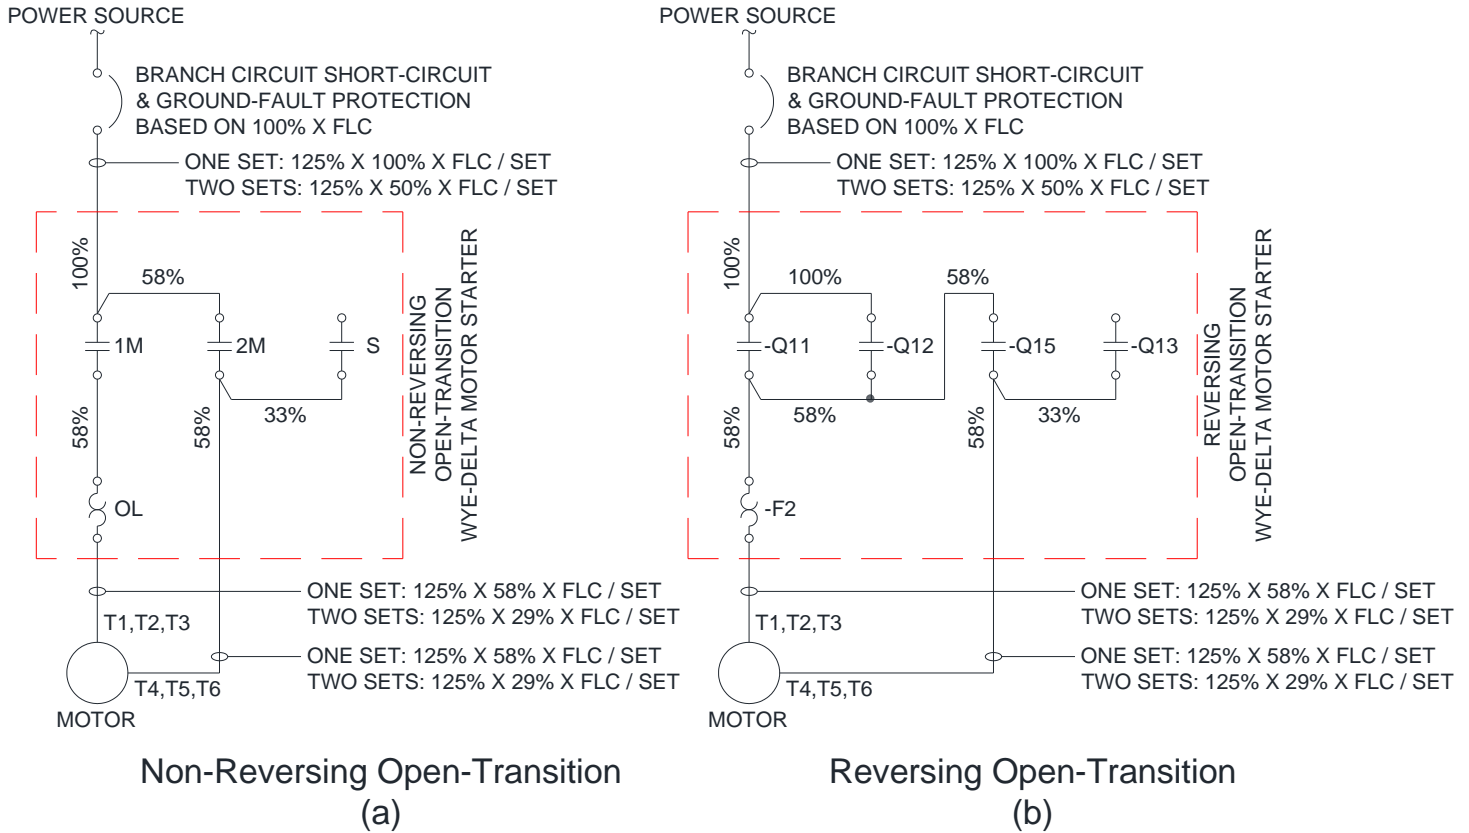
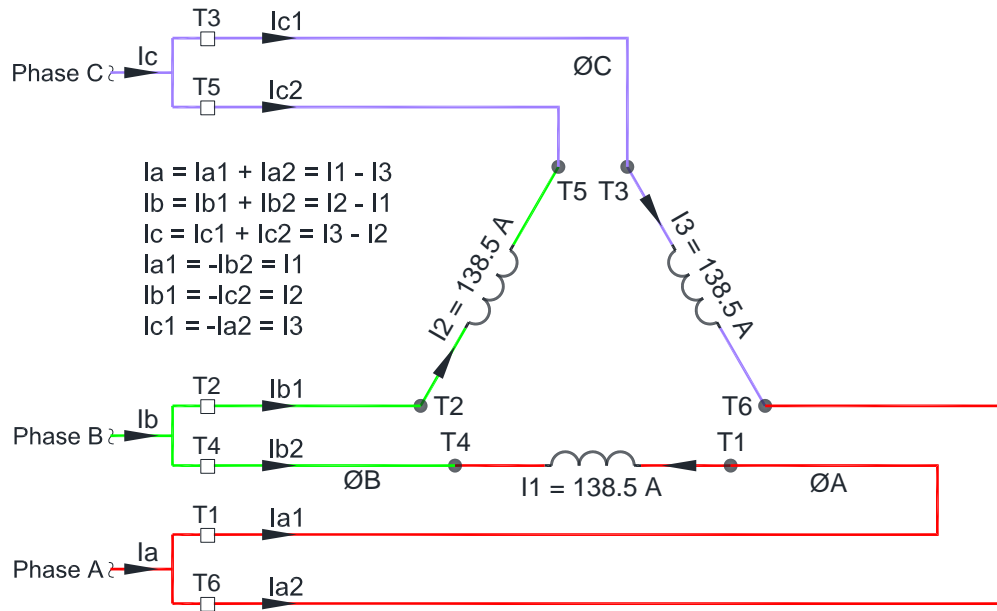
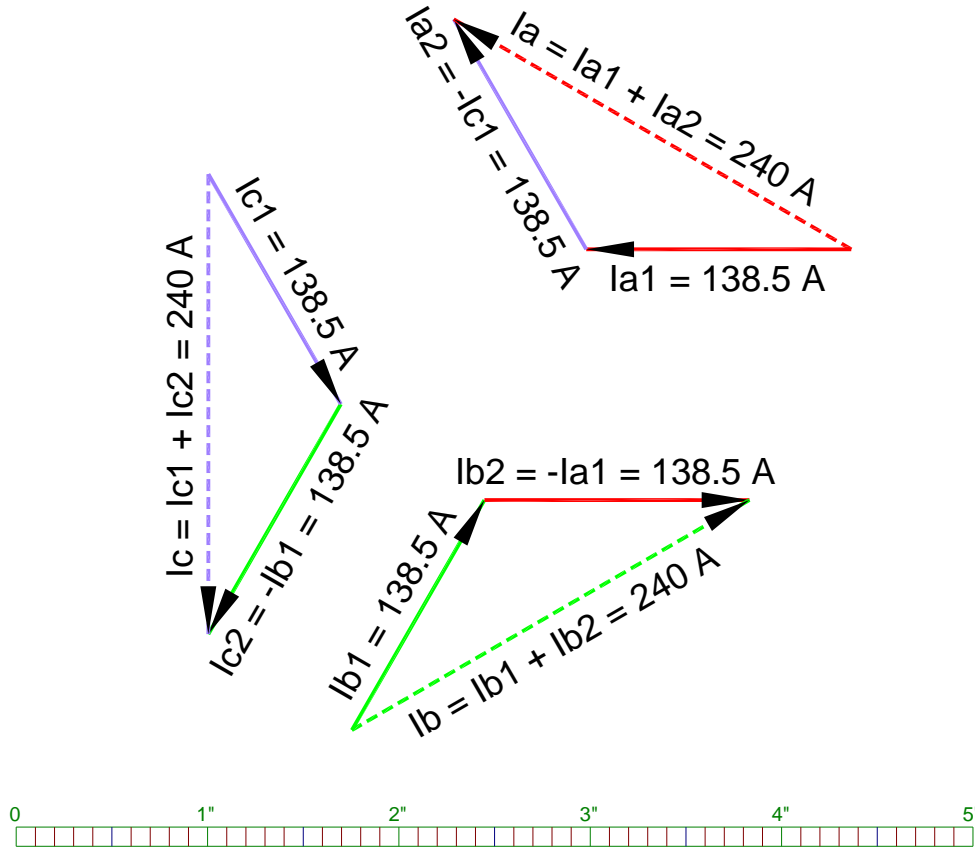

Figure 38 – Sizing Components for Open-Transition Wye-Delta Starters
Figure 39 – Line Currents Going to a Delta-Connected Six-Lead or Twelve-Lead Motor at 480V, Three-Phase
Figure 40 – Line Currents Going to a Delta-Connected Six-Lead or Twelve-Lead Motor at 480V, Three-Phase
The sizing requirements for the entire power circuit, from the branch-circuit protective device (fuses or circuit breaker) to the motor, will be presented in this section, but we will start with the motor and work backwards to the power source. Figure 38 shows an overview of the entire power circuit for non-reversing and reversing open-transition wye-delta motor starters. The branch-circuit short-circuit & ground fault protection device is typically a circuit breaker or set of three fuses. In the case of motor control centers or combination starters, this fuse or circuit breaker is mounted in the same bucket, compartment, cubicle, or enclosure as the wye-delta motor starter.
The reason that some of the conductor, contactor, and thermal overload sizes are different for wye-delta motor starters compared to full-voltage motor starters is because the three windings of a wye-start/delta-run motor are actually three single-phase loads. These three single-phase loads aren't perceived as a single three-phase load until the point where motor terminal T1 connects to T6, T2 connects to T4, and T3 connects to T5. As can be seen in Figure 38, this happens on the line side of contactor 1M for a non-reversing wye-delta motor starter, but on the load side of contactors –Q11 and –Q12 for reversing wye-delta motor starters. See Table 2 on page 8 for the IEC equivalents of the NEMA motor terminal designations T1 through T6.
In Figure 38, it might be incorrectly inferred that the branch-circuit short-circuit and ground-fault protection device should be selected to be equal to 100% of the motor’s full-load current, but that is not the case. The size of this circuit breaker or set of fuses will vary, depending on the type of device that is chosen, but should be selected from the circuit breaker or fuse manufacturer’s catalog based on 100% of the motor’s FLC, limited to the maximum rating permitted by NEC Table 430.52. For example, a 200 Hp motor at 480 V has a full-load current of 240 A. A typical Class J time-delay fuse selection for this motor would be rated at 350 A. This is within the upper limit of $240\text{ A} \times 175\% = 420\text{ A}$ that is required by NEC Table 430.52.
In previous examples, such as those shown in Figure 13 on page 17 and Figure 16 on page 20, we have said that the full-load current flowing to a wye-start/delta-run motor starter for a motor connected in the delta configuration is equal to the full-load current shown in Table 430.250 of the NEC. For example, a 200 Hp wye-delta motor would have 240 A flowing to the starter when wired in the delta configuration at 480 V, three-phase. Let’s now discuss the fact that there are six power conductors, not three, going to the wye-delta motor downstream from this starter. It might seem that the 240 A full-load current would be divided equally across the two conductors per phase to give us 120 A in each of the conductors going to the motor from each of the three phases of the power supply, but it is a little more complicated than that. The 240 A per phase is actually composed of two 138.5 A current vectors that are 120° out of phase with each other, as illustrated in Figure 39 and Figure 40.
In Figure 39, the current vector I_a , which is the current from phase A of the power source, is composed of current vectors $I_{a1} + I_{a2}$, which can be restated as $I_{a1} - I_{c1}$ or $I_1 - I_3$. The two current vectors per phase are shown in Figure 40 below. This split or change from current vector I_a to the two current vectors I_{a1} and I_{a2} occurs wherever the two conductors per phase are connected together, which typically happens at the line terminals of the power contacts of contactor 1M for non-reversing wye-delta motor starters, or on the load side of the power contacts of contactors -Q11 and -Q12 for reversing wye-delta motor starters, as shown in Figure 38.
There are intervening components between Phase A and terminals T1 & T6 in Figure 39, such as contactor power contacts, but these components are not shown, for the sake of simplicity. This also applies to the other two phases, of course.
Notice that Figure 40 looks very similar to Figure 15 on page 19, but the shorter vectors in Figure 40 are tail-to-head, instead of head-to-head as in Figure 15, since the vectors in Figure 40 are being added together, rather than subtracted. The vectors in both figures are the same, they are just relabeled as listed at the left side of Figure 39. For example, $I_{a1} = I_1$ and $I_{a2} = -I_3$, so I_a is still defined as $I_a = I_1 - I_3$.
See NEC 430.22(C) for conductor sizing from the power source to the starter. When the wye-start/delta-run motor is running in the delta configuration, the current in the power conductors from the branch fuses or circuit breaker to the starter is the same three-phase current that would be going to a 'normal' three-phase motor. Therefore, the power conductors from the branch-circuit fuses or circuit breaker should be based on NEC430.22(C), which requires 125% * the motor's FLC, as shown in Figure 38(a) and (b) on page 50.
Short-Circuit and Ground-Fault Protective Device: As seen in Figure 38 on page 50, the ground-fault and short-circuit protection for a wye-delta motor starter is based on 100% of the motor's FLC, since the power source sees the wye-start/delta-run motor as a 'regular' delta motor when it is running in the delta configuration. The size or rating of the fuses or circuit breaker used as the ground-fault and short-circuit protection will vary on the type selected, chosen per NEC Table 430.52.
Overload Protective Device: As can also be seen in Figure 38 on page 50, the thermal overload units, sometimes known as heaters, for wye-delta motor starters are to be selected based on 58% of the motor's full-load current, rather than on 100% of the motor's FLC in the case of a full-voltage motor starter. This is specifically mentioned in the last paragraph of NEC 430.32(A)(1). The size of the selected heaters will vary with different manufacturers. Sometimes, the motor starter manufacturer's catalog will have a separate column on the overload selection chart, or possibly a separate chart, to assist in the proper overload selection for wye-delta motor applications, in which case, multiplying by 58% has already been done for you.